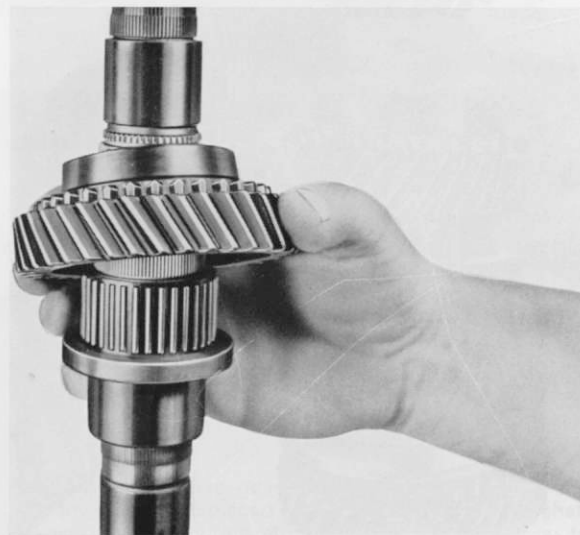

Fig. 25
1. Clamp mainshaft (417) between soft jaws in the vice. Output end on top.
2. Slide needle cage (416) and 2nd gear wheel (415) onto mainshaft with dog teeth on top (Fig. 25). Place a synchro ring (402) on the cone of the gear.